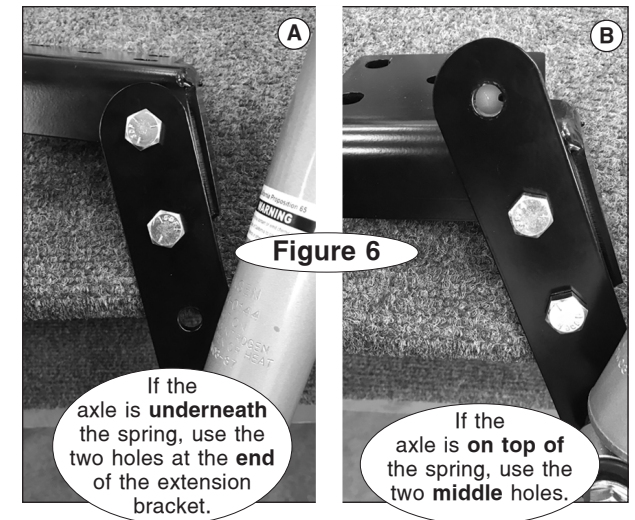

Figure 7
6. Position a washer (#5) over a bolt (#6) and bolt through the center hole of the frame bracket (#10), spacer (#9), washer (#5) and the top of the shock (#1) (Figure 7).